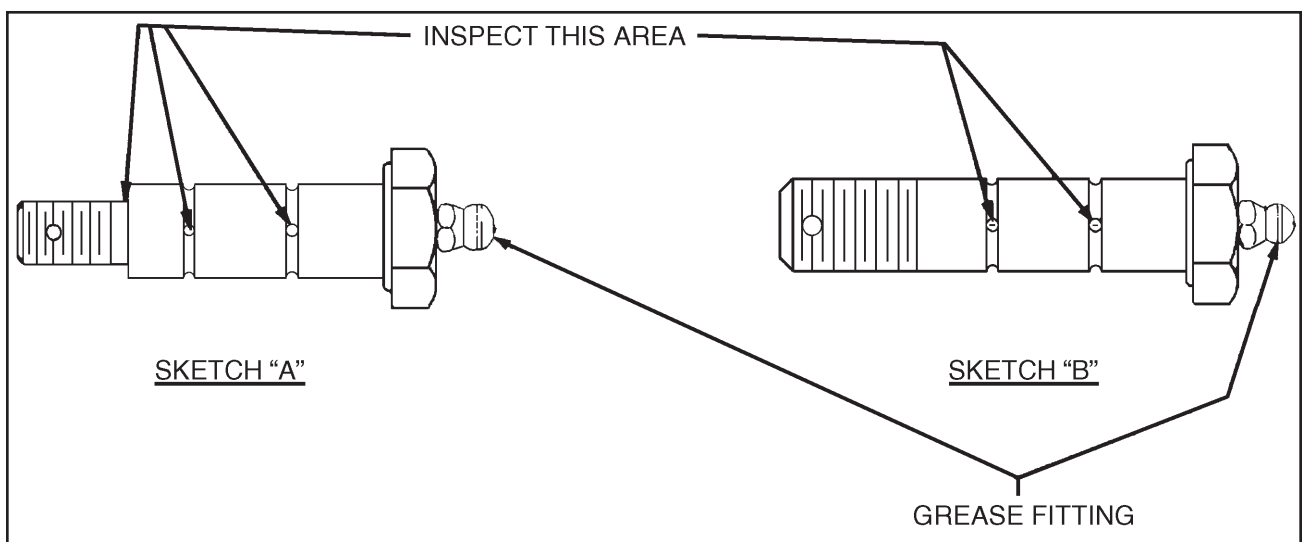

Figure 3-26
- (b) Adjustment. If the quick-disconnect mechanism fails the above inspection, remove and adjust the retention clips as shown in Figure 3-26. Reinstall the adjusted clips and reinspect.
NOTE: The 100 hour inspection requirement can be extended to 500 hours by the installation of Piper Kit No. 760-910V (to replace Sketch "A" bolt) or a new greaser bolt P/N 79543-002 (to replace Sketch "B" bolt) depending on which bolt is being replaced (see Figure 3-26).
- (c) Thoroughly inspect each bolt using a 10X magnifying glass, or dye check, or magnetic partical inspection for cracks as shown in Sketches "A" and "B", Figure 3-26.